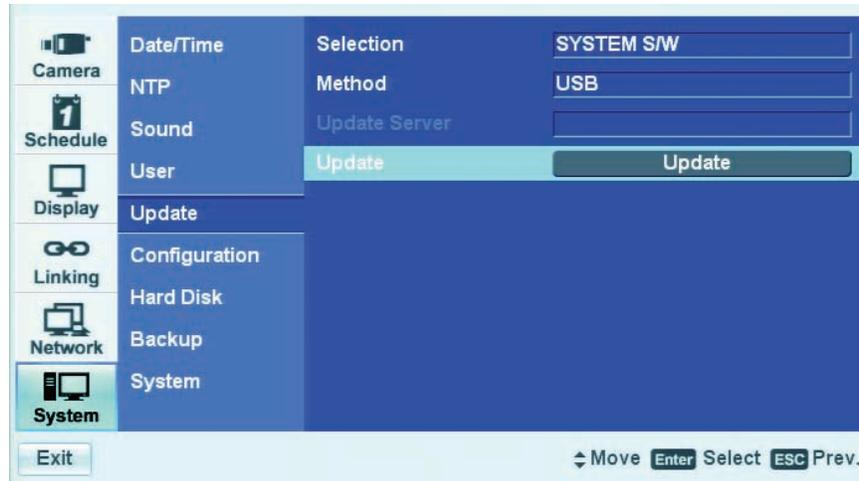

Figure 3. Update Settings
- From the System menu, click Update. The Update settings box appears (refer to Figure 3).